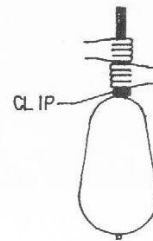

FIG 7
5. MOVE TO CLIPPER, AND CLIP JUST ABOVE FILL. SEE FIG 7.